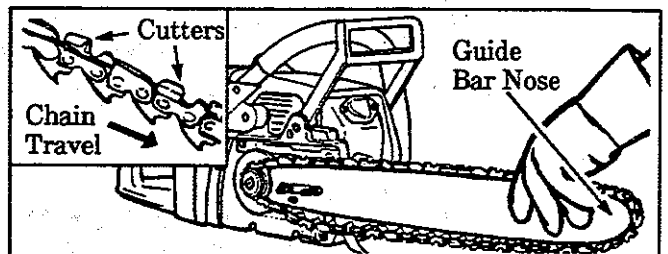

Figure 8
- Hold the chain with the cutters facing as shown in Figure 8 (inset).
- Fit the bottom of the chain Drive Links into the groove on top of the Guide Bar, then around the Guide Bar nose. Figure 8.